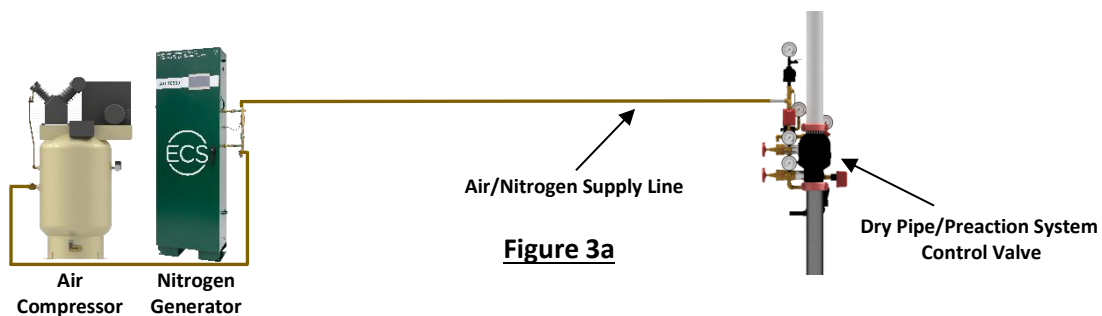

Figure 3a
Step 6a: Plumb the Nitrogen/Air Supply Line - No Additional Air Compressor (Figure 3a)